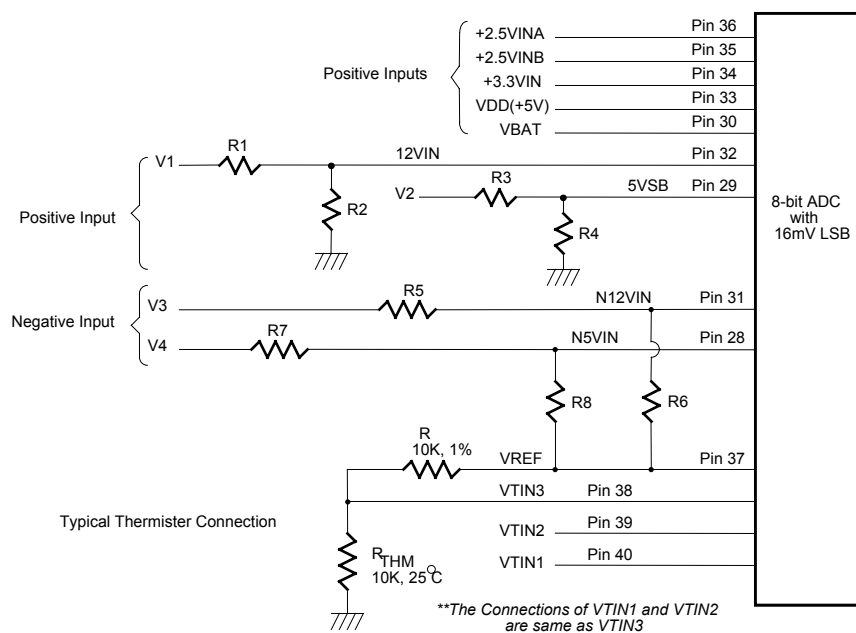

Figure 11.
The maximum input voltage of the analog pin is 4.096V because the 8-bit ADC has a 16mV LSB. Really, the application of the PC monitoring would most often be connected to power suppliers. The CPU V-core voltage, +3.3V and battery voltage can directly connected to these analog inputs. The 5VSB and +12V inputs should be reduced a factor with external resistors so as to obtain the input range. As Figure 11 shows.
The negative voltage should be connected two series resistors and a positive voltage VREF (is equal to 3.6V). In the Figure 11, the voltage V3 and V4 are two negative voltage which they are -12V and -5V respectively. The voltage V3 is connected to two serial resistors then is connected to another terminal VREF which is positive voltage. So as that the voltage node N12VIN can be obtain a posedge voltage if the scales of the two serial resirtors are carefully selected. It is recommended from Winbond that the scale of two serial resistors are R5=232K ohms and R6=56K ohm. the The input voltage of node -12VIN can be calculated by following equation.
The W83782D can connect three thermistors to measure three different environment temperature. The specification of thermistor should be considered to (1) β value is 3435K, (2) resistor value is 10K ohms at 25°C. In the Figure 11, the thermistor is connected by a serial resistor with 10K Ohms, then connect to VREF (Pin 37).